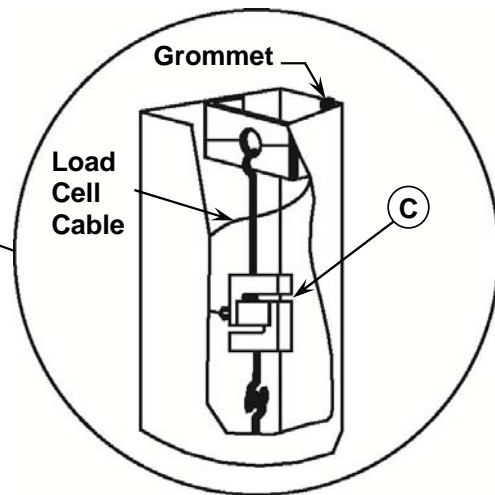

Figure No. 3
5. Next, referring to Figure No. 3, fasten top hook bolt of load cell assembly (C) to column. Make sure the load cell assembly does not touch the sides of column.